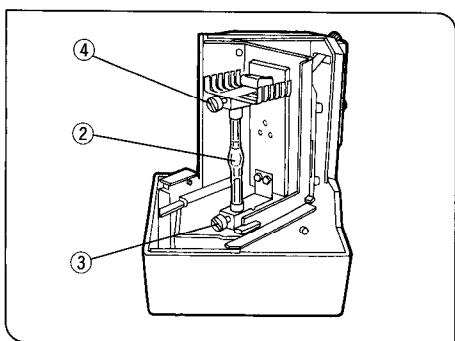

Fig. 6
3. Loosen the burner clamping screws ③ and ④ (Fig. 6) and remove the securing post. (For burner replacement, remove the used burner.)
4. With the + pole of the mercury burner ② facing downward, insert the pole into the opening and tighten the burner clamping screw ③. Then loosen the burner clamping screw ④. Insert the pole (marked UP) of the burner into the opening and tighten the burner clamping screw ④. (Fig. 6)